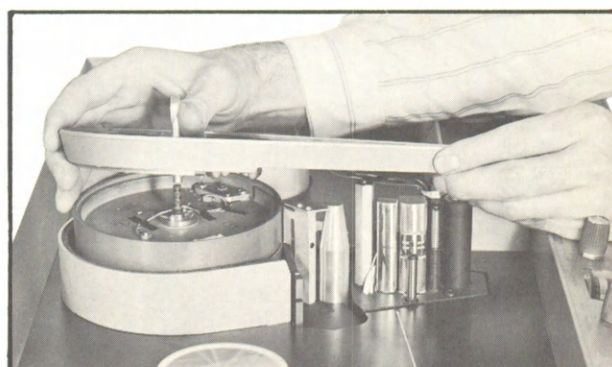

Figure 5-11. Installing Preamp Casting
3. While holding the brush tool in place, (see Figure 5-11) place the casting over the slip ring and slowly lower the casting and tool over the slip ring assembly.